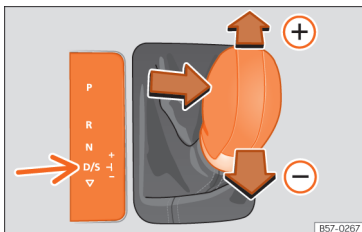

Fig. 90 Lever in the Tiptronic position
- Move the lever forwards **+** or backwards **-** to change up or down a gear **»» Fig. 90**.